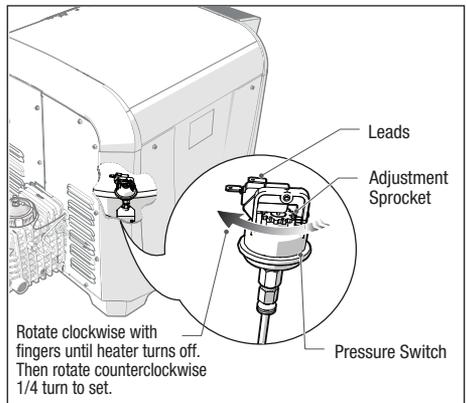

Figure 15. Water Pressure Switch Adjustment
3. Remove the side panel to gain access to the water pressure switch. See *Figure 15*.
8. Slowly turn the pressure switch adjustment sprocket counterclockwise one-quarter turn. The heater should come back on. See *Figure 15*.